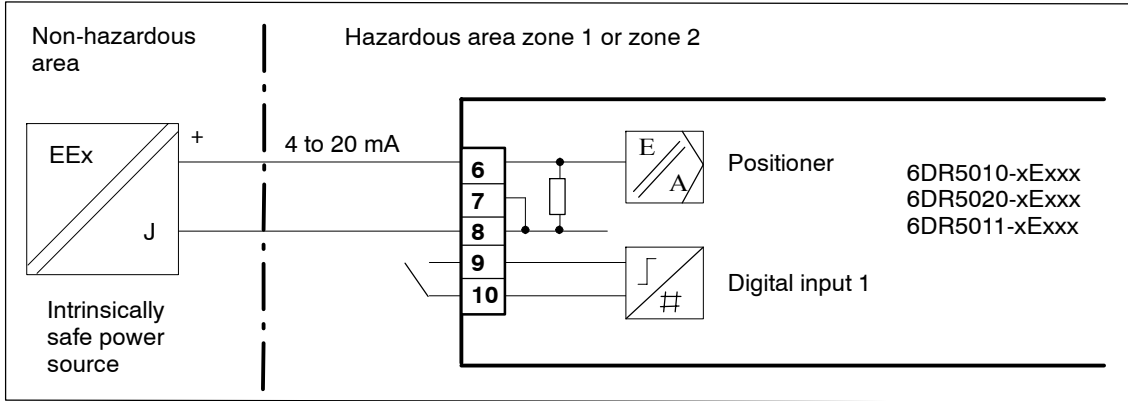

Figure 3-20 Two-wire connection, EEx i
4. Connect a suitable current or voltage source (see figure 3-13, page 59 and figure 3-20, page 63).
5. The positioner is now in the operating mode “**P-manual operation**” The current potentiometer voltage (P) is displayed in percent in the top line of the display, e.g.: “**P12.3**”, and “**NOINI**” flashes in the bottom line: